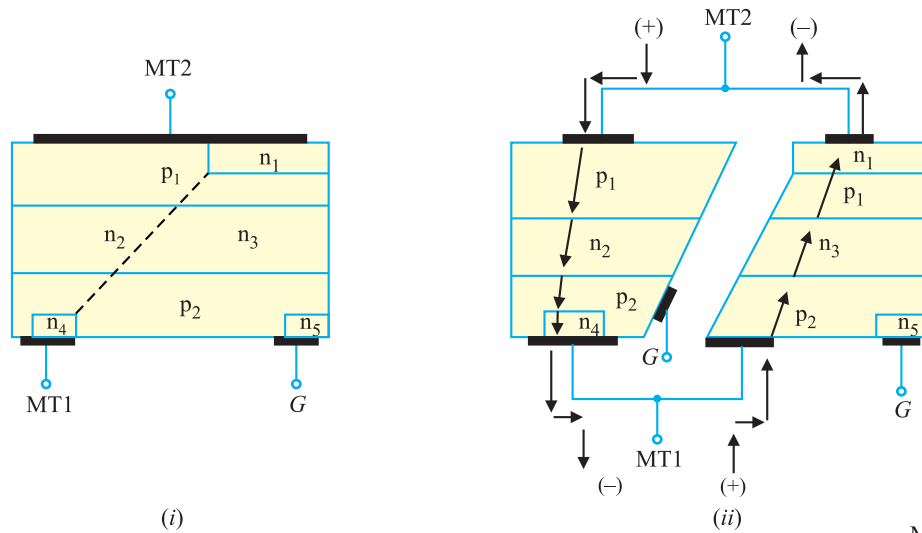
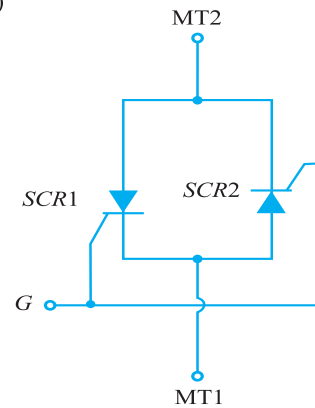

Fig. 21.3
Fig. 21.4
We shall now see that a triac is equivalent to two separate *SCRs* connected in inverse parallel (*i.e.* anode of each connected to the cathode of the other) with gates commoned. Fig. 21.3 (i) shows the basic structure of a triac. If we split the basic structure of a triac into two halves as shown in Fig. 21.3 (ii), it is easy to see that we have two *SCRs* connected in inverse parallel. The left half in Fig. 21.3 (ii) consists of a *pnpn* device ( $p_1n_2p_2n_4$ ) having three *pn* junctions and constitutes *SCR1*. Similarly, the
right half in Fig. 21.3 (ii) consists of  $pnpn$  device ( $p_2n_3p_1n_1$ ) having three  $pn$  junctions and constitutes  $SCR_2$ . The  $SCR$  equivalent circuit of the triac is shown in Fig. 21.4.
Suppose the main terminal  $MT_2$  is positive and main terminal  $MT_1$  is negative. If the triac is now fired into conduction by proper gate current, the triac will conduct current following the path (left half) shown in Fig. 21.3 (ii). In relation to Fig. 21.4, the  $SCR_1$  is *ON* and the  $SCR_2$  is *OFF*. Now suppose that  $MT_2$  is negative and  $MT_1$  is positive. With proper gate current, the triac will be fired into conduction. The current through the devices follows the path (right half) as shown in Fig. 21.3 (ii). In relation to Fig. 21.4, the  $SCR_2$  is *ON* and the  $SCR_1$  is *OFF*. Note that the triac will conduct current in the appropriate direction as long as the current through the device is greater than its holding current.
**Solution.** We have seen that transistor equivalent circuit of an *SCR* is composed of *pnp* transistor and *npn* transistor with collector of each transistor coupled to the base of the other. Since a triac is equivalent to two *SCRs* connected in inverse parallel (Refer back to Fig. 21.4), the transistor equivalent circuit of triac will be composed of four transistors arranged as shown in Fig. 21.6 (i). The transistors  $Q_1$  and  $Q_2$  constitute the equivalent circuit of *SCR1* while the transistors  $Q_3$  and  $Q_4$  constitute the equivalent circuit of *SCR2*. We can explain the action of triac from its transistor equivalent circuit as under :